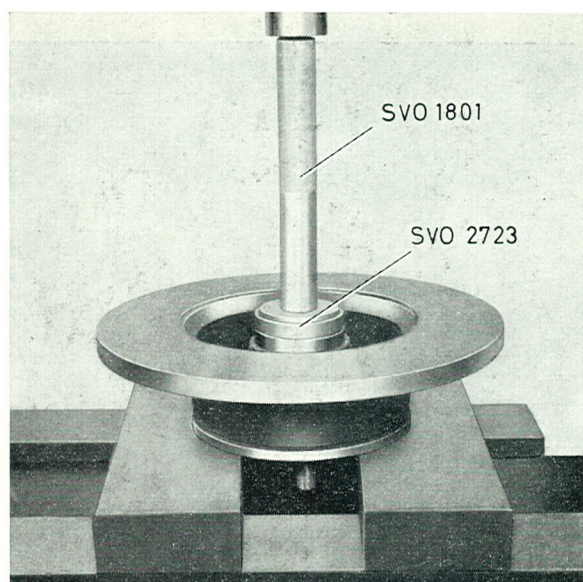

Fig. 6-18. Fitting the sealing ring
1. Place the inner bearing in position in the hub and press in the sealing ring with tool SVO 2723 and standard handle SVO 1801. See Fig. 6-18.